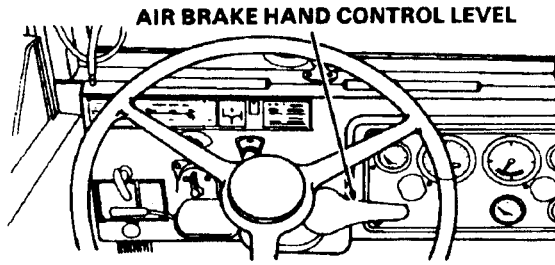

FIGURE 18-3. Air Brake Hand Control Lever.
- Pull down the trailer air brake hand control lever to engage the semitrailer brakes (Figure 18-3).